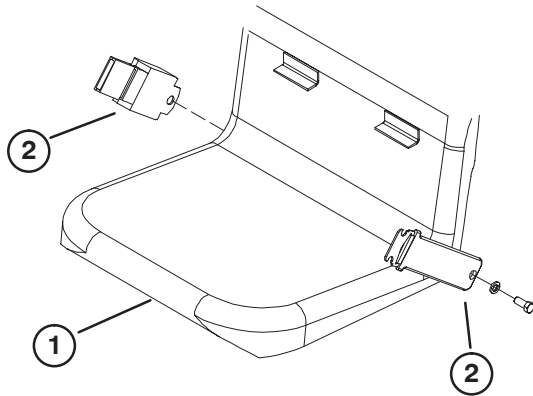

Figure 11
1. Install seat belt to holes in back of seat with (2) 7/16 x 1" lg. capscrews and 7/16 lockwashers. Tighten securely. Latch side of belt to be mounted to left side of seat (Fig. 11).